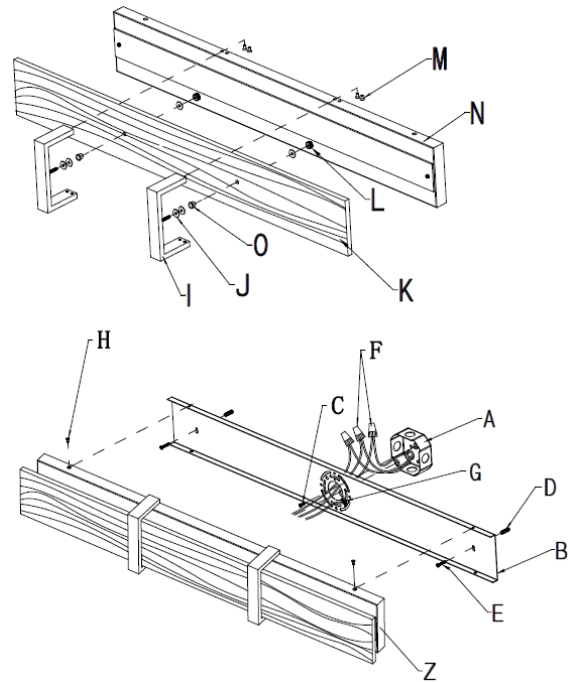

Fig.2
CONNECTING THE WIRES (FIG. 2)
7. At this point, connect the electrical wires as shown in Fig. 2, making sure that all wire connectors are secured. If your outlet has a ground wire (green or bare copper), connect the fixtures ground wire to it. Otherwise, connect the fixture ground wire directly to the mounting plate (B) using the green screw (G) provided. After wires are connected, tuck them carefully inside the junction box.